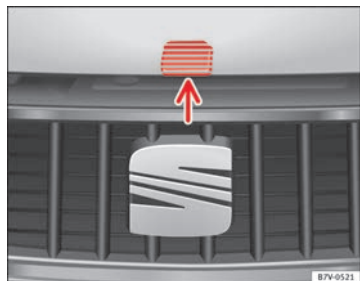

Fig. 170 Release lever to open the bonnet in the radiator grille
- Lift the bonnet using the release lever ⇒ Fig. 170 (arrow) and open the bonnet fully. The bonnet is held open thanks to the gas strut.